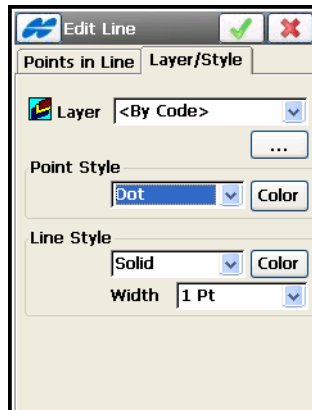

Figure 6-28. Edit Line/Point Style
5. On the *Layer/Style* tab of the **Edit Line** screen (Figure 6-28 on page 6-21), set layer and plotting properties to use to display the points and lines on the map and tap the ok  button.